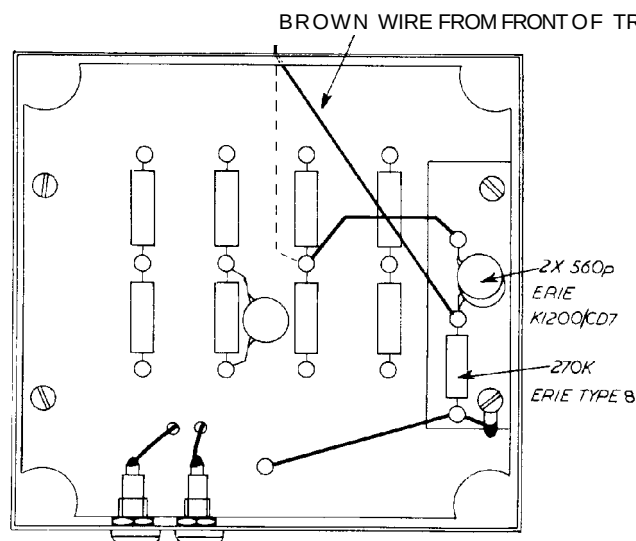

Fig 2
The components required can be obtained ready assembled on a tagboard if required and Fig 2 shows this in position under the audio transformer. Alternatively suitable resistors and capacitors from normal servicing stocks may be used if preferred.
- Remove the two drive screws on the right hand side of the tagboard and use these to secure the small tagboard supplied as shown in Fig 2.